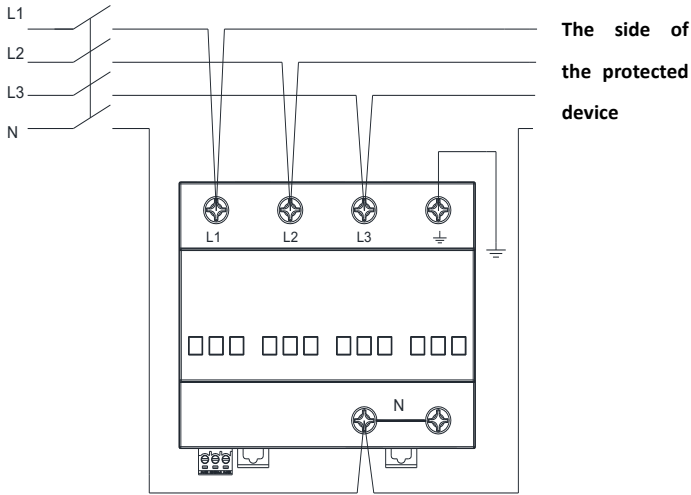
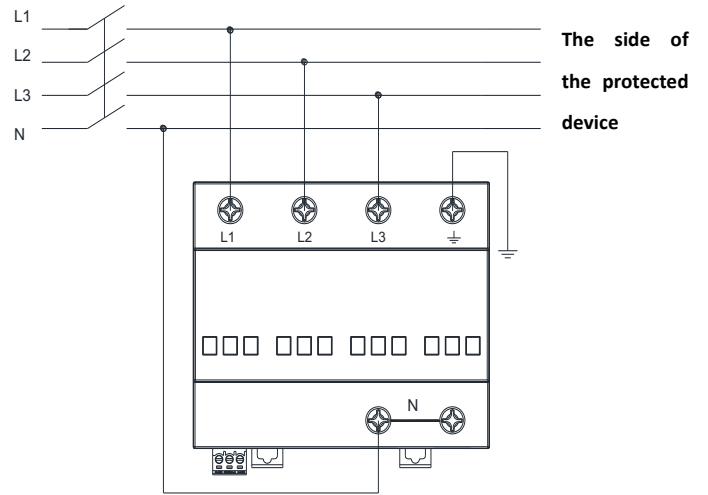

Figure 7-1 RPM-100/3N+NPG wiring diagram-'V' shape wiring
Figure 7-2 RPM-100/3N+NPG wiring diagram-routine wiring
1. The product is installed and fixed with a 35mm standard rail. The recommended wiring method is the V-shaped wiring shown in Figure 7-1. You can also use the conventional direct parallel wiring shown in Figure 7-2. To achieve better protection, when direct parallel wiring is used, the wiring should be as short as possible and the total length should be controlled within 0.5m.